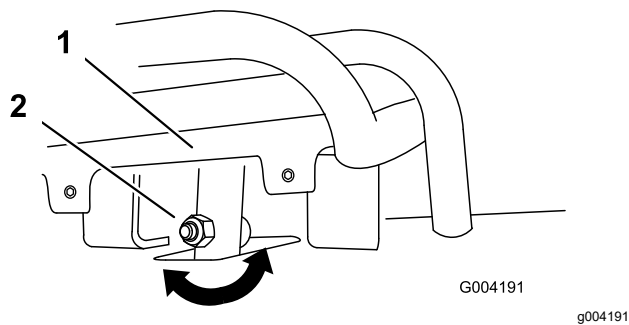
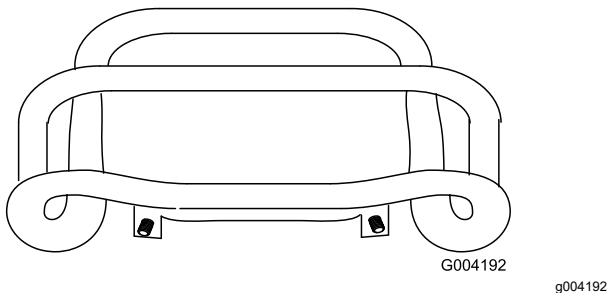

Figure 49
Figure 50
4. If the front of the traction control does not rest square and flush with the reference bar, loosen the nut and bolt in the stem of the traction control (Figure 49).
5. Adjust the traction control so that it rests flush against the reference bar when it is pulled straight back (Figure 49 and Figure 50).
- Loosen the flange nut and bolt in the stem of the traction control (Figure 49).
- Adjust the traction control so that it rests flush against the reference bar when it is pulled straight back (Figure 49 and Figure 50).